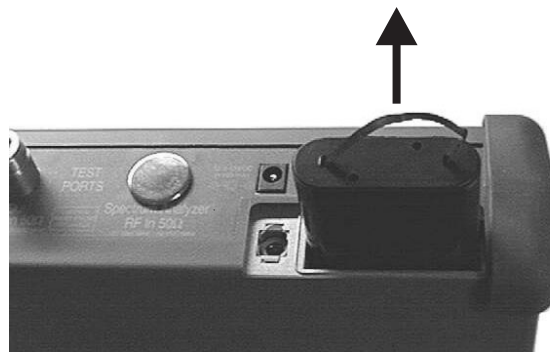

Figure 5. Removing the Battery
4. Grasp the battery lanyard and pull the battery straight up and out of the unit, as illustrated in Figure 5.